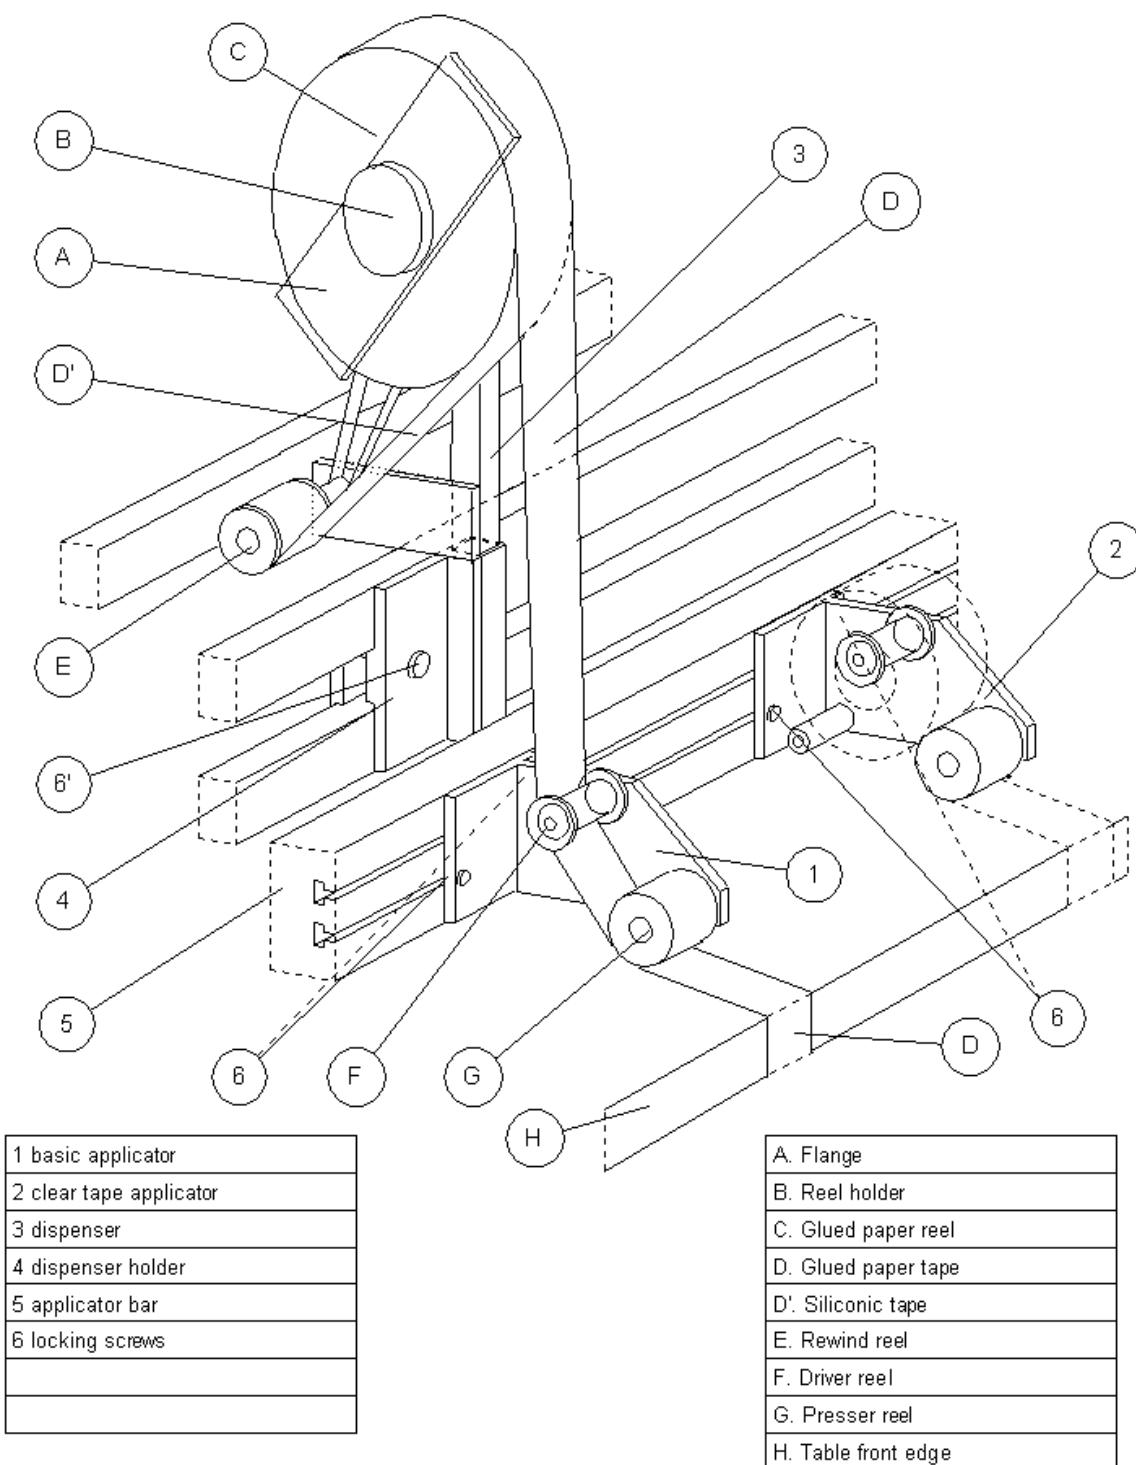

Fig. 1
The subsequent procedure refer to Fig. 1:
Press the **red emergency button** (see fig.1 (E)).